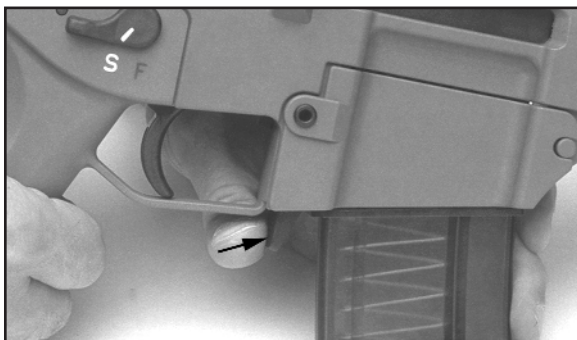

Figure 22 Release magazine (push forward)
- 2 • Push the magazine catch forward with the thumb and remove the empty magazine (see Figure 22 below).